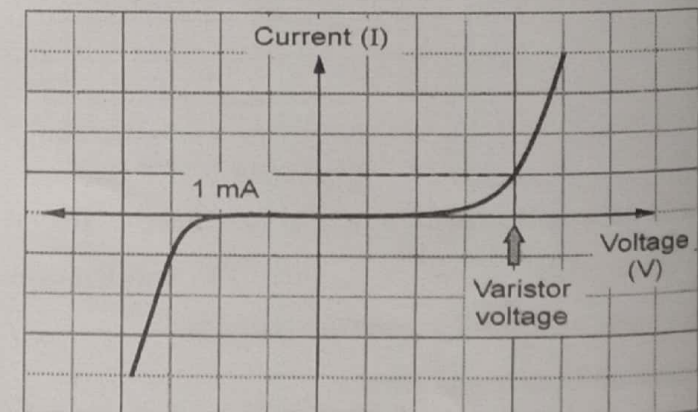

Fig. Q.17.2 V-I characteristics of varistor
- The V-I characteristics of varistor is shown in the Fig. Q.17.2. The characteristics are bilateral and similar on both sides.